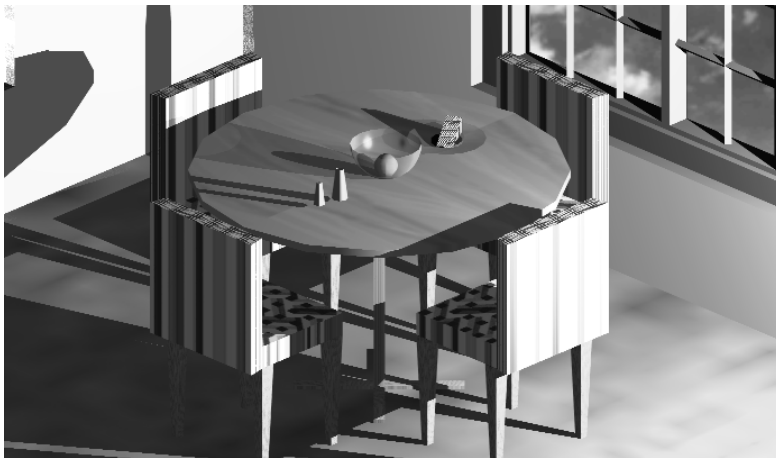

Figure 25-22: The final rendering with shadows, transparent objects, and a background.
9. The rendering should look like Figure 25-22, only a lot better because you see it in color on your screen. Save your drawing.